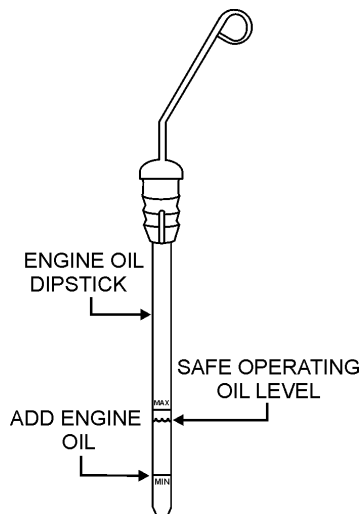

Figure 15. Engine Oil Dipstick
3. Reinsert dipstick (Figure 15), then remove dipstick from its holder. Check the oil level shown on the dipstick.